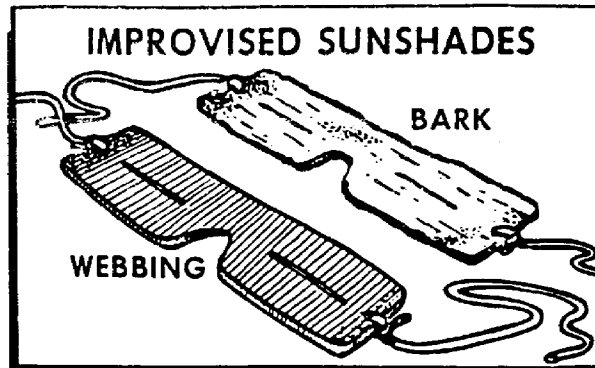

Figure 3. Improvised goggles.
(1) When exerting the body, prevent perspiration by opening clothing at the neck and wrists and loosening it at the waist. If the body is still warm, take off outer layers of clothing, one layer at a time, for comfort. When work stops, put the clothing on again to prevent chilling.
(2) In strong wind or extreme cold, as a last resort, wrap up in whatever fabric is available, and get into some type of shelter or behind a windbreak. Take extreme care with hard materials, such as synthetics, as they may become cold soaked and require more time to warm.
(3) Keep the head and ears covered. You will lose as much as 50 percent of your total body heat from an unprotected head at 500F. To help prevent sun or snow blindness, wear sun or snow goggles or improvise a shield with a small horizontal slit opening (Figure 3).